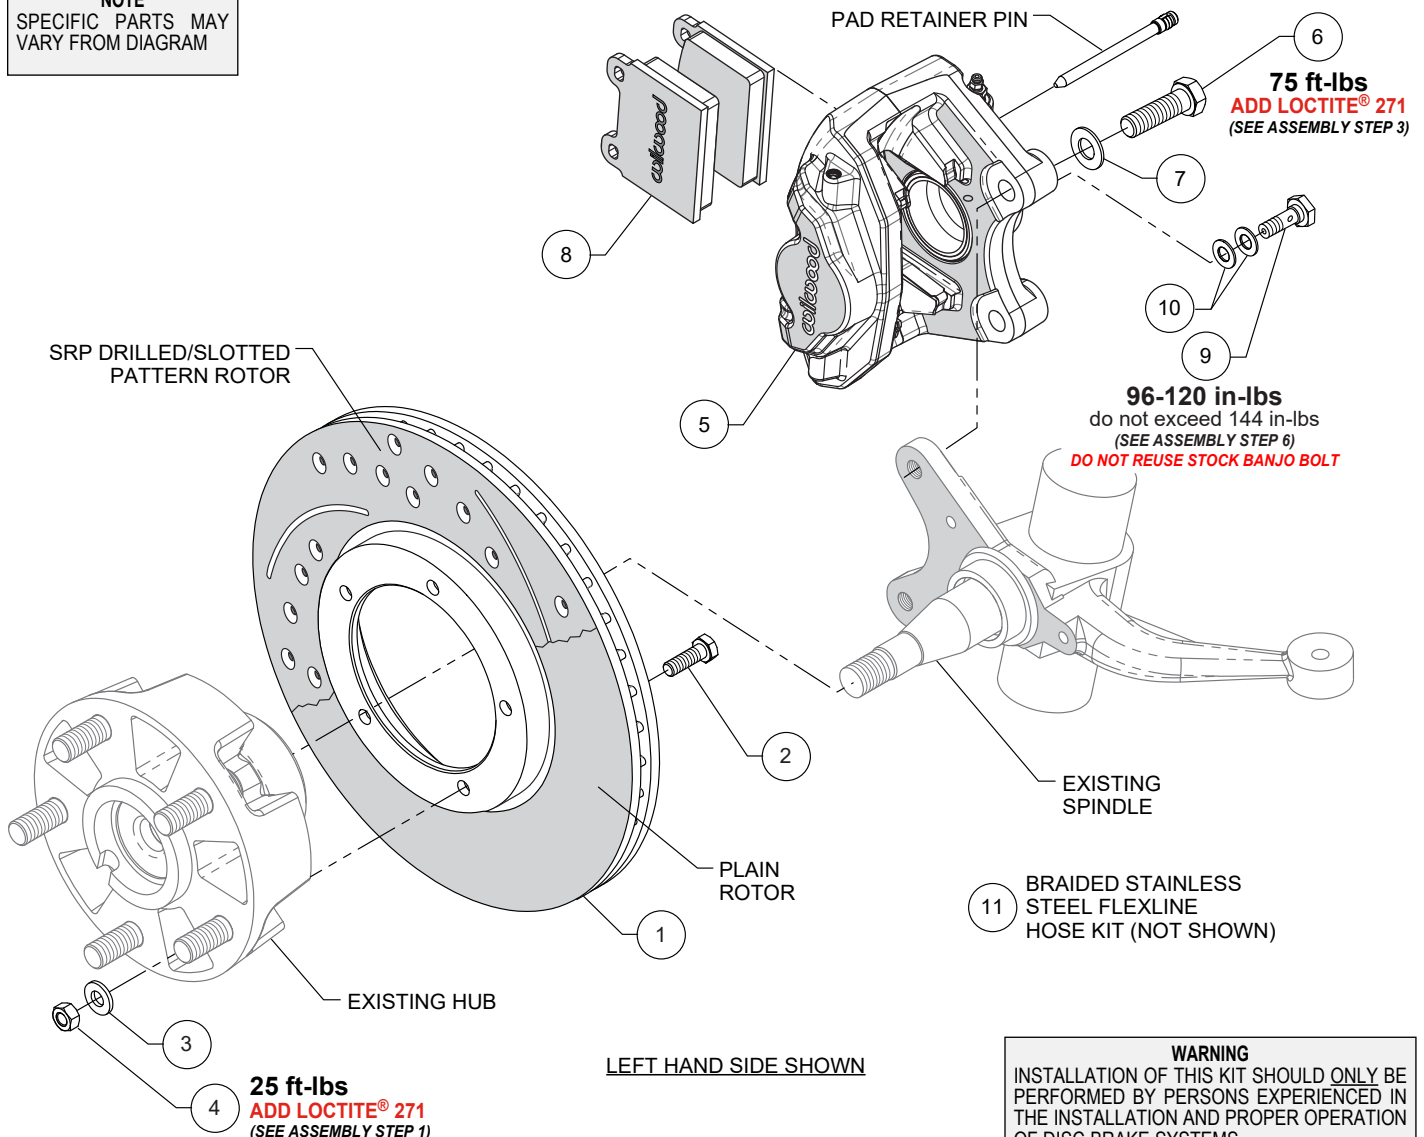

Figure 1. Typical Installation Configuration
NOTE: Numbers in parenthesis refer to the parts list and Figure 1 on the preceding pages.
STEP 1 Orient the Wilwood rotor (1) and the existing OEM hub as shown in Figure 1 and Photo 1. Attach rotor to hub assembly using bolts (2), washers (3), and nuts (4). Apply red *Loctite*® 271 to the bolt threads, and torque nuts to value shown in Figure 1 using a criss-cross pattern.
STEP 3 Mount the caliper (5) onto the OEM caliper mounting bosses of upright using bolts (6) and washers (7), as shown in
Figure 1 and Photo 2. Apply red *Loctite*® 271 to bolt threads, and torque to value shown in Figure 1.
STEP 6 Attach supplied brake line to caliper. **NOTE:** OEM rubber brake hoses generally cannot be adapted to Wilwood calipers. Install Wilwood's stainless steel braided flexline hose kit (11), p/n 220-17550, included with this kit, as shown in Photos 5 thru 8. A new grommet for the flexline is included (arrow, Photo 5). Orient flexline as shown in Photo 8 and mount to OEM chassis bracket using new chassis adapter fitting and retainer clip, Photo 6. Connect to caliper using banjo bolt (9) and crush washers (10), as shown in Figure 1 and Photo 7. Do not use thread sealant on banjo bolt. Torque to minimum value shown in Figure 1. Check for leakage, increasing torque only to stop leakage without exceeding maximum specification. Replace crush washers and banjo bolt whenever reassembly is required. **Ensure hoses are routed to prevent contact with moving suspension, brake or wheel components.**